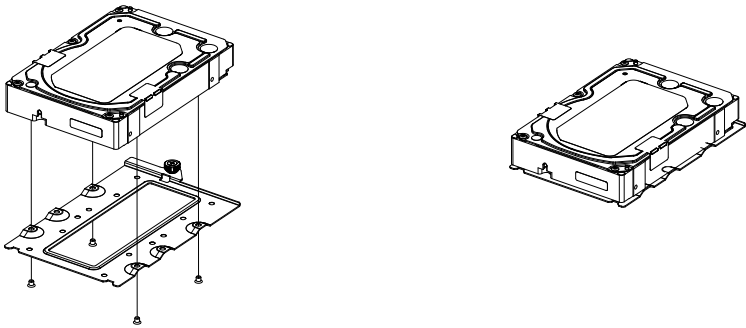

Figure 6-5. Securing the Bracket to the HDD Tray (3.5" Drives)
3. Secure the HDD tray to the chassis floor. (Figure 6-5).